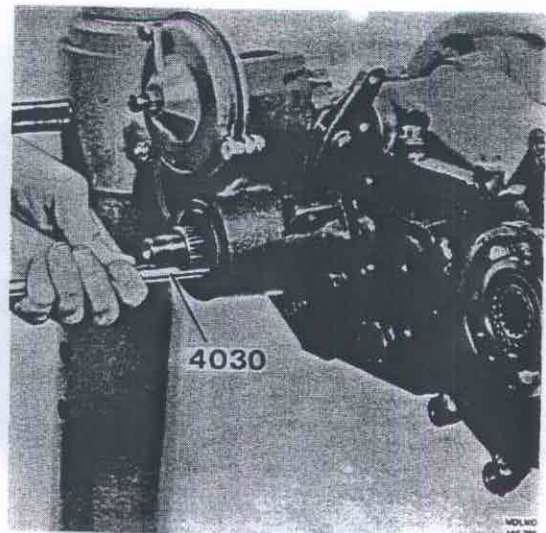

Fig. 43-31. Removing seal
4. Pull out the seal with 4030, see Fig. 43-31.